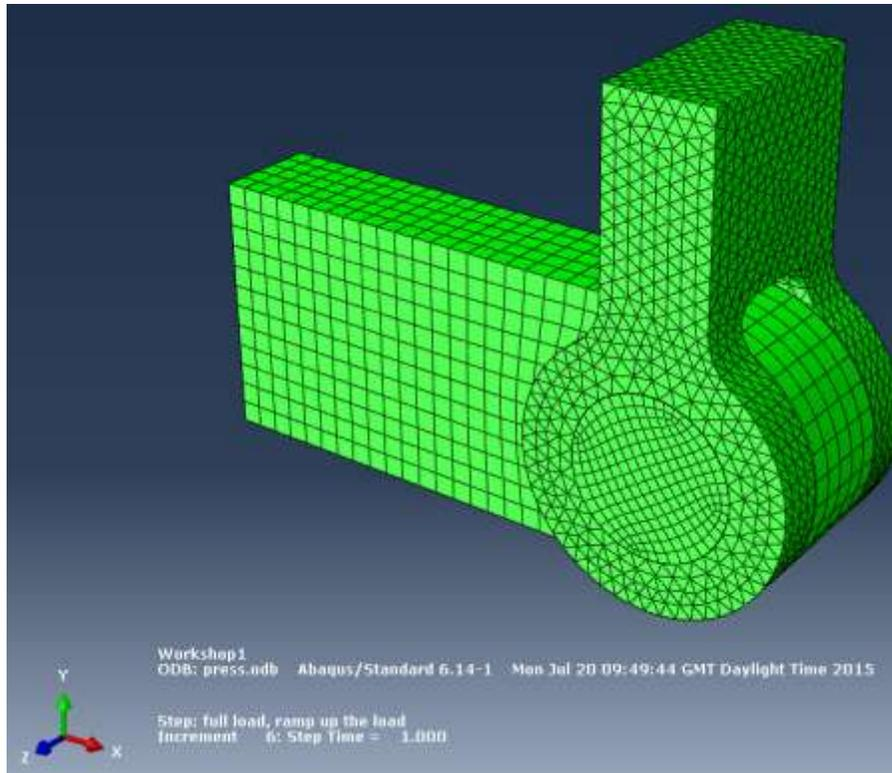

Figure W1–15 Undeformed model shape.
Abaqus/CAE switches to the Visualization module, opens the output database created by the job (**press.odb**), and displays the undeformed shape of the model, as shown in Figure W1–15.
3. From the main menu bar, select **Plot→Contours→on Deformed Shape** to view a contour plot of the von Mises stress, as shown in Figure W1–17.